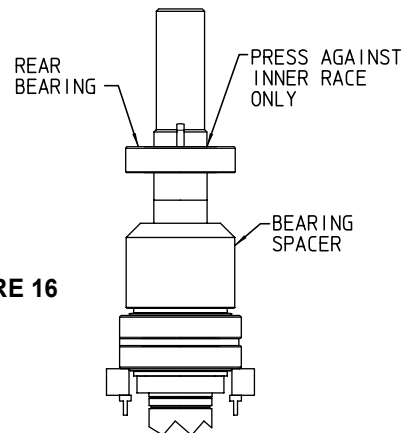

FIGURE 16
12. Use hydraulic press and V blocks to remove bearings and spacer. See Figure 16.
3. Coat rear bearing area on shaft with grease conforming to ISO 220, NLGI grade 2 or NSF USDA-H1. Slide rear bearing over shaft with shield side down. Press bearing onto shaft until it seats against spacer. See Figure 16.